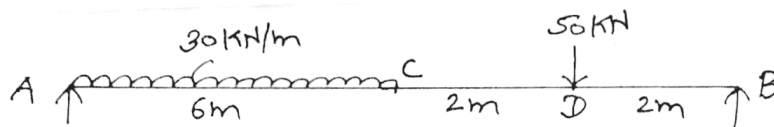

Fig. 2
- b)** A simply supported beam is loaded & supported as shown in fig. 2. Determine Support Reactions, Shear & Moment at C by drawing influence line diagram. [9]